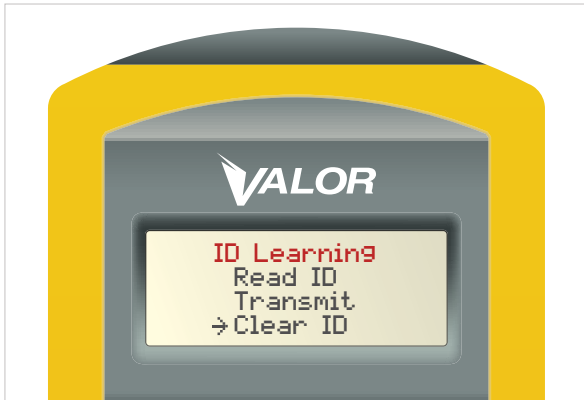

Figure 17
2. Still holding the SmarTool directly over the Valor CANbus transceiver, press ESC to return to the “ID Learning” menu (Figure 17).